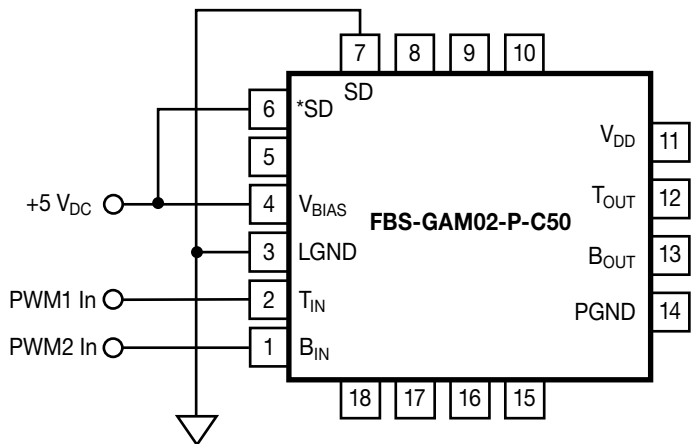

Figure 17. PG Protection Functions Disabled
The FBS-GAM02-P-C50 incorporates a Power Good (PG) sensing circuit that disables both the low- and high-side internal gate drivers when the +5 V_{DC} gate drive bias potential (V_{BIAS}) falls below an under-voltage threshold, typically 4.45 V_{DC}, or rises above a potentially-damaging V_{BIAS} over-voltage threshold level – refer to Figure 5 for the proper operational nomenclature and functionality versus the state of the V_{BIAS} power supply. During the time when the V_{BIAS} potential is outside of the pre-set threshold(s), the PG output (Pin 5) pin is logic low (“0”). Alternatively, when the V_{BIAS} potential is within the pre-set thresholds the PG pin is logic high (“1”). The logic condition of the PG pin may be sensed by a rad hard FPGA or Microcontroller/DSP in-order to determine when the power switches in the FBS-GAM02-P-C50 may be driven with a pulse-width modulated (PWM) input signal(s) at the B_{IN} and T_{IN} logic inputs. If either the under-voltage and over-voltage indication features are not required or desired, then these functions may be disabled separately by connecting the *SD (Pin 6) pin to V_{BIAS} (pin 4) for the UVLO or the SD pin (Pin 7) to LGND (pin 3) for the 0 V_{DC} indicator, as shown in Figure 17.